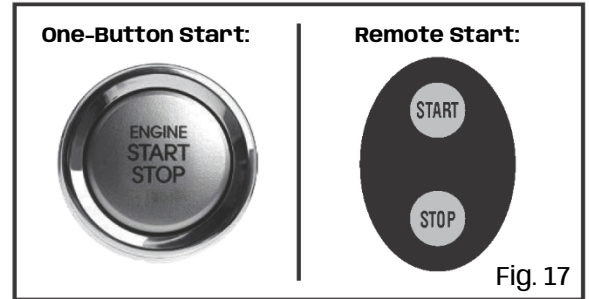

Fig. 17
- 3-2. Hold down the ENGINE START/STOP switch for 3 seconds (Fig. 17).
- 3-2. Hold down the REMOTE START switch for 3 seconds (Fig. 17).